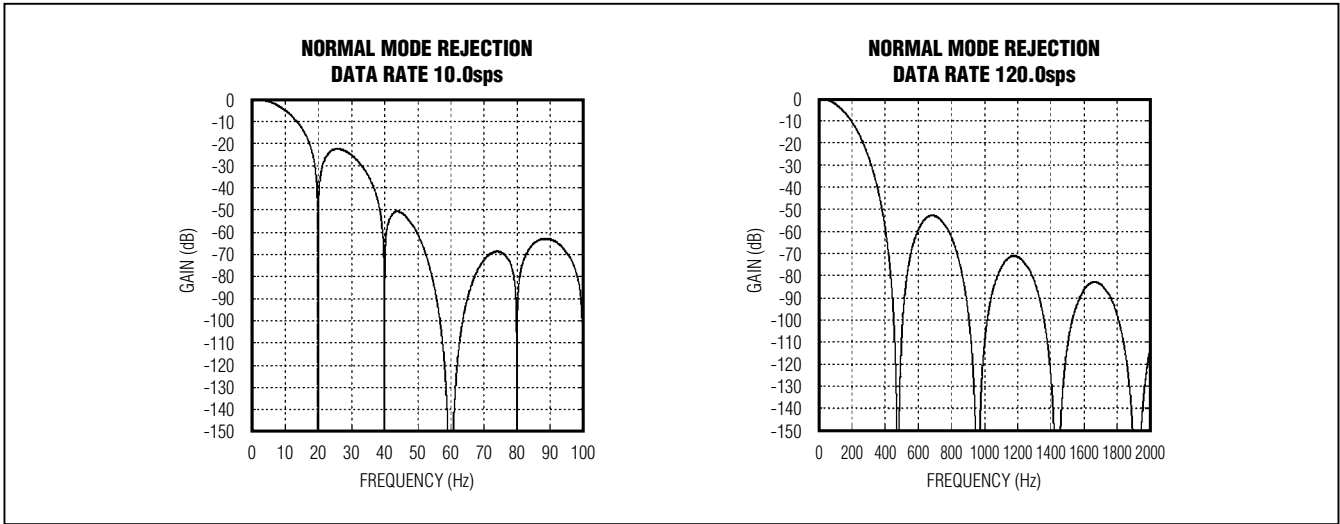

Figure 1. Normal-Mode Frequency Response (2.4576MHz Oscillator, LINEF = 0)
2.048MHz oscillator. The 2.4576MHz oscillator provides maximum 60Hz rejection, and the 2.048MHz oscillator provides maximum 50Hz rejection. See Figures 1 and 2. For optimal simultaneous 50Hz and 60Hz rejection, apply a 2.25275MHz external clock at CLK.
line frequency of 60Hz and is guaranteed to attenuate 60Hz normal-mode components by more than 100dB. Simultaneous 50Hz and 60Hz attenuation can be accomplished by using an external clock with a frequency of 2.25275MHz. This guarantees a minimum of 80dB rejection at 50Hz and 85dB rejection at 60Hz. The SINC4 filter has a -3dB frequency equal to 24% of the data rate. See Figures 1 and 2.